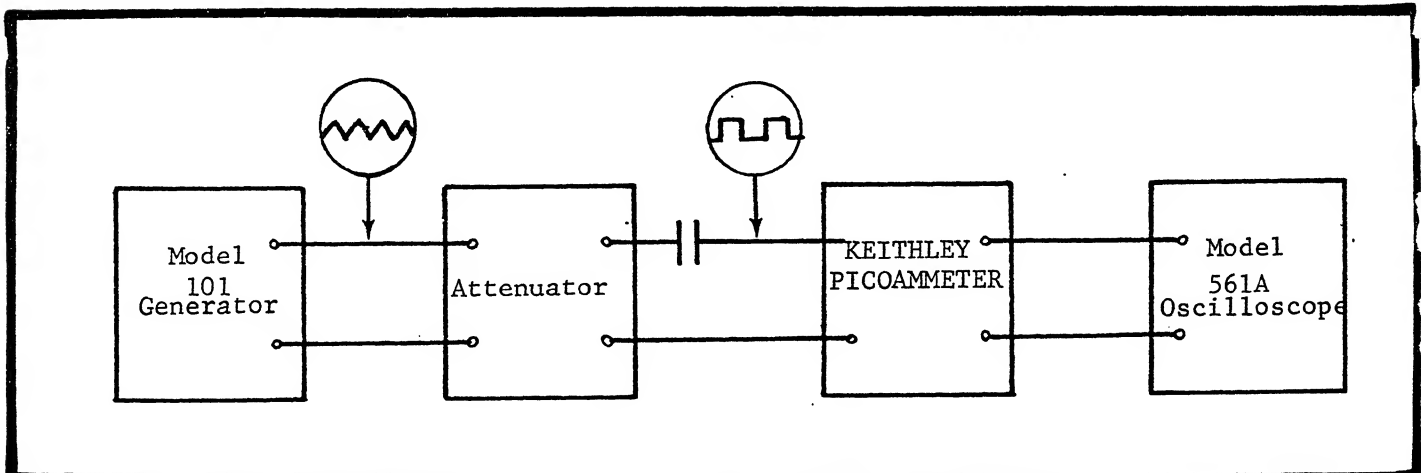

FIGURE 16. Diagram for Transient Response Measurement and Calibration.
1. The circuit for the measurement is shown in Figure 16. The output of the Model 202A Low-Frequency Function Generator is attenuated by a voltage divider and applied to the Picoammeter through a 5-picofarad polystyrene capacitor. A Model 561A Oscilloscope is attached to the Picoammeter output. Set the output of the Model 202A at two volts. For adjustment of the 10^{-12} ampere range, use a 100:1 attenuator; for the 10^{-11} ampere range, 10:1 attenuator; and for 10^{-10} ampere range, no attenuation.